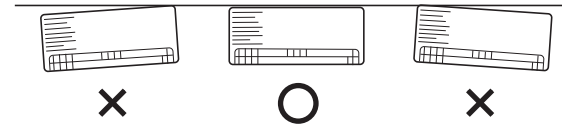

Fig. 3-157
- (2) Check with a tape measure or level gauge. This is important so that the unit is correctly installed. (Fig. 3-157)
- (3) Make sure the panel is flush against the wall. Any space between the wall and unit will cause noise and vibration.